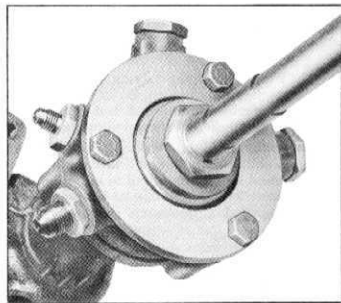

Fig. 46—Installing Valve Body Adapter
6. Place valve cover adapter, J-5182 over valve body, install valve body to housing bolts and tighten bolts evenly and securely (fig. 46).